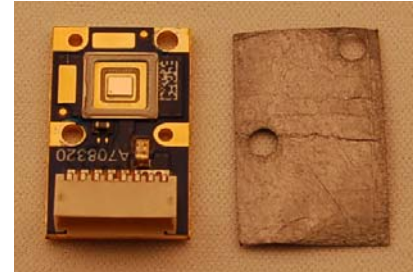

Figure 6: PhlatLight device and an appropriate thermal interface material
1. Use a thermal pad of an area slightly larger than the area of the core-board (Figure 6).